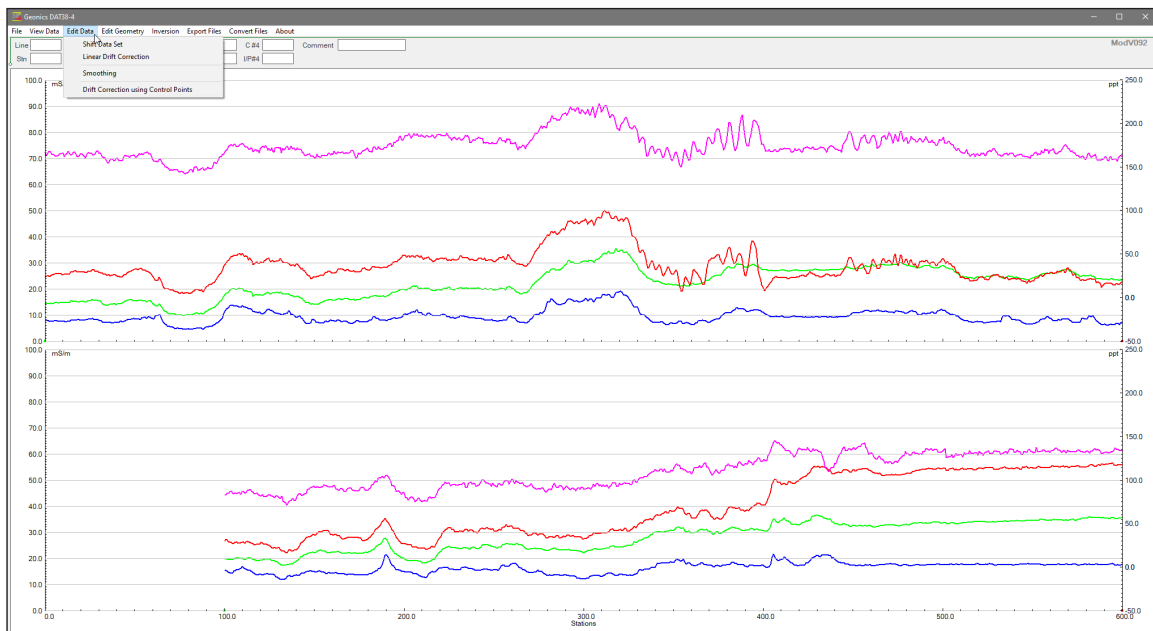
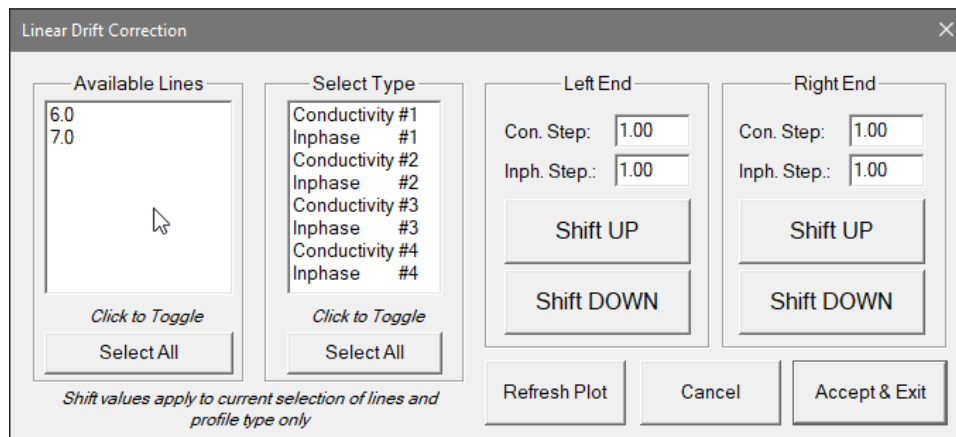
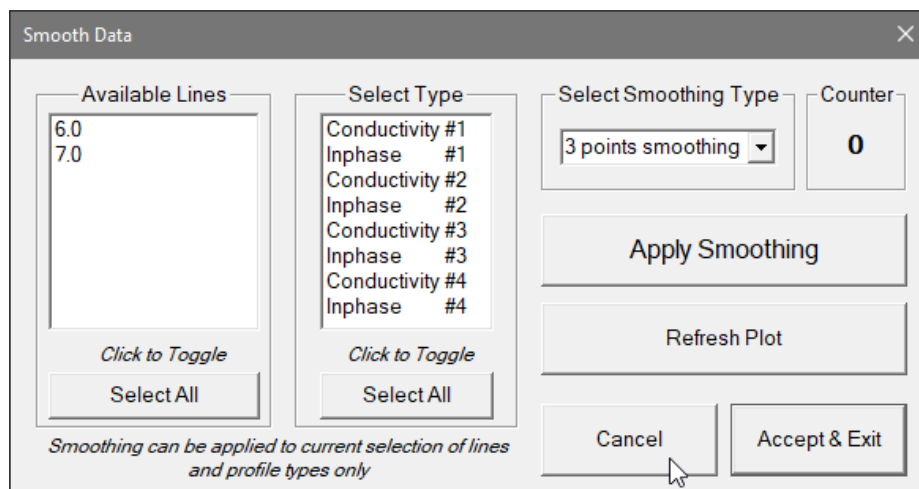

Figure 4.1 DAT38-4 Edit Data menu
Figure 4.4 Linear Drift Correction dialog
Figure 4.7 Smoothing Data dialog
To access the Edit Data functions, select **Edit Data** from the main menu at the top of the screen (Figure 4.1). In the current version, this menu includes four options: **Shift Data Set**, **Linear Drift Correction**, **Smoothing Data**, and **Drift Correction using Control Points** (the latter is available when drift control points were recorded during data collection). These functions are enabled only when the profile plots display type is active; a corresponding message will be shown if a vertical section is included.
To open the Shift Data Set dialog, select **Edit Data | Shift Data Set** from the main menu (Figure 4.1). The dialog appears as shown in Figure 4.2.
To open the Linear Drift Correction dialog, select **Edit Data | Linear Drift Correction** from the main menu (Figure 4.1). The dialog appears as shown in Figure 4.4.
- The selected items are highlighted (see Figures 4.4 and 4.5).
To open the Smooth Data window, select **Edit Data | Smooth Data** from the main menu (Figure 4.1). The window appears as shown in Figure 4.7.